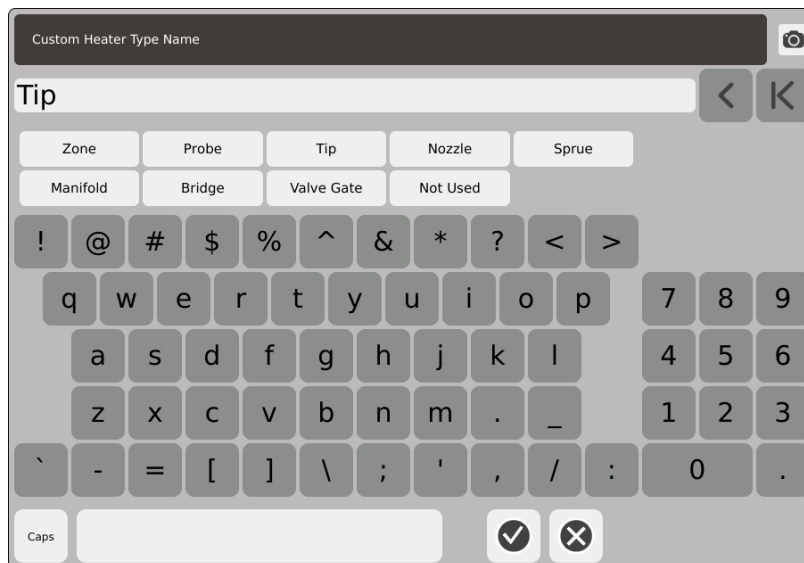

Figure 8-33 Custom Heater Type Name Keyboard
- a. Touch the field to the right of the **Custom Type 1**. The Custom Heater Type Name keyboard is shown (Figure 8-33).